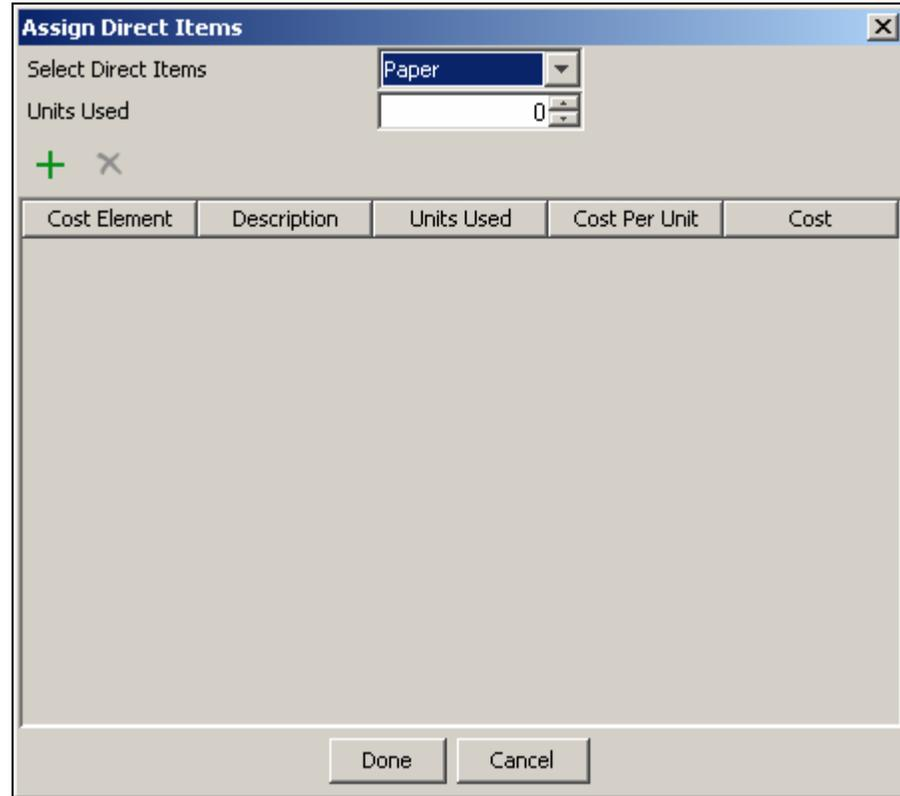

Figure 10.11: Assign Direct Resource
3. To assign the direct resource used by the activity, click **Assign** in *Value* column of the *Assign Direct Items* property. The Assign Direct Items dialog box appears (see Figure 10.11).